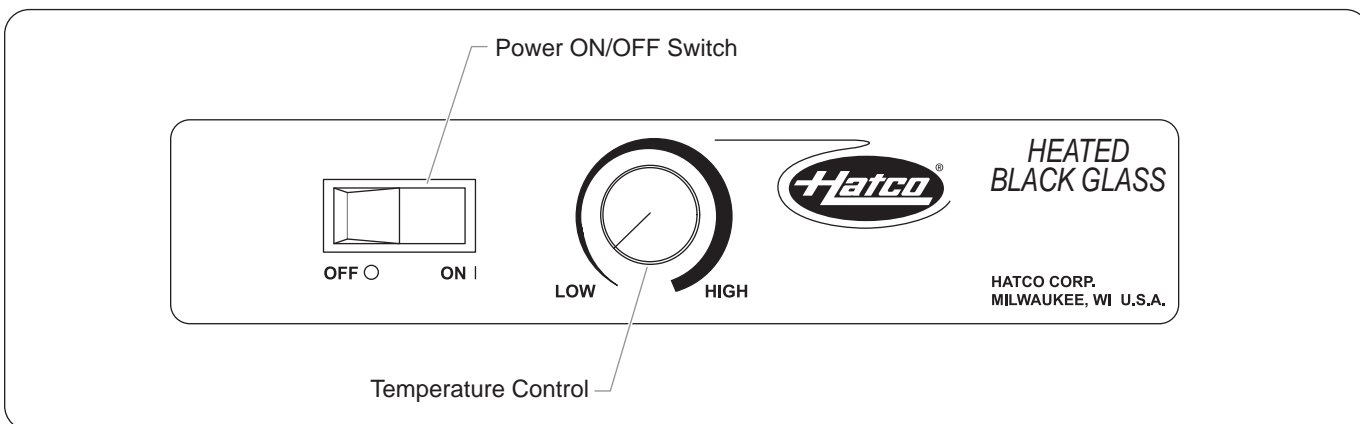

Figure 9. Standard Control Panel
3. Move the power ON/OFF switch to the ON position (see Figure 9).